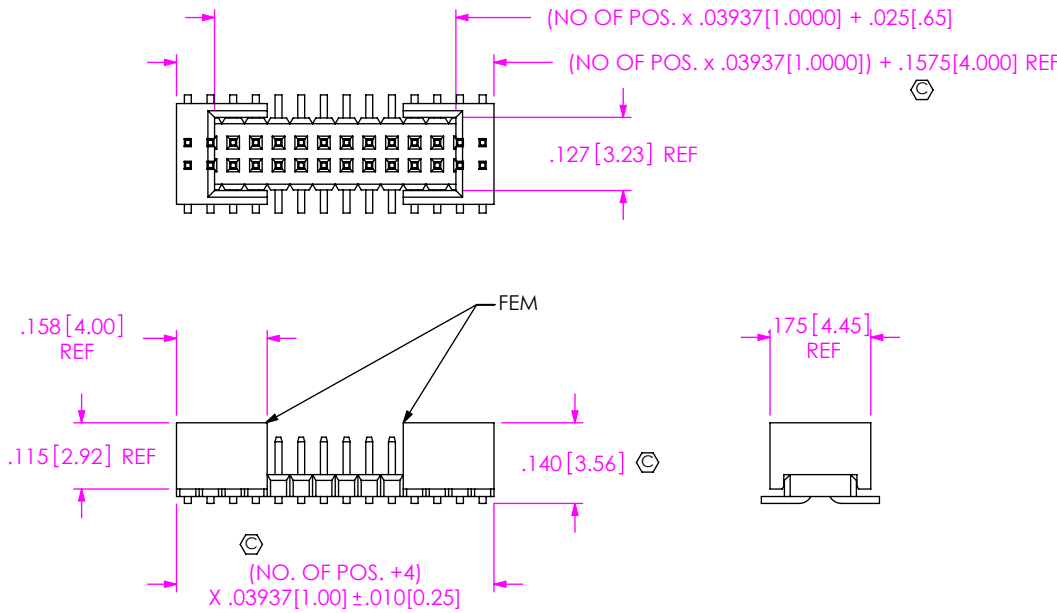

FIG 3
-SA: END SHROUDS W/ ALIGNMENT PINS (SEE FIG 3, SHT. 2) (SEE NOTE 9) (05 POS PER ROW MINIMUM, 46 POS PER ROW MAXIMUM) (USE FTM-XX-D, USE FTMH-75-D-ES-XX-X FOR MOLDED END SHROUDS)